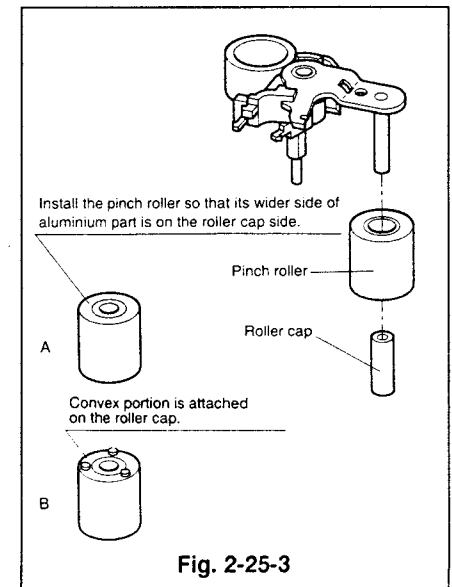

Fig. 2-25-3
- ② Install the pinch roller so that the side, with the widest aluminium bushing, is on the roller cap side. Push the roller cap inside to secure the pinch roller. (Refer to Fig. 2-25-3)
Note: There are two types of pinch rollers as shown in Fig. 2-25-3. Each should be installed in the direction shown below.